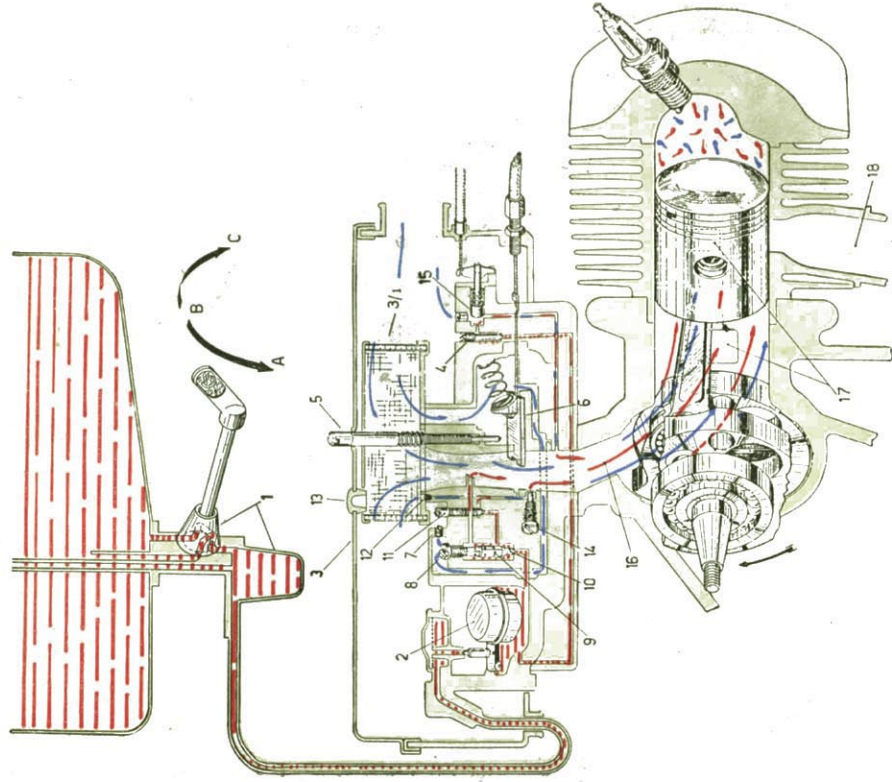

Fig. 9 - Fuel supply and distribution diagram
**For adjusting the idling turn the slow running adjuster screw (on the air cleaner cover) (Fig. 9, n. 5).**
- On the air cleaner case, opposite to said screw, is a plugged hole. When this plug is removed the spring loaded idler adjusting screw is accessible (Fig. 9, n. 14).